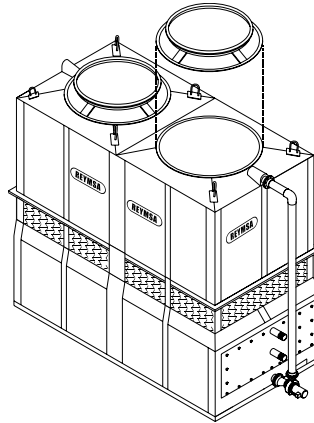

Figure A-38: Fan adaptor 2 installation
B. For the Double Fan and Quadruple Fan, follow the same instructions described in previous step to install remaining Fan Adaptors (see Figure A-38 for an example). Each fan adaptor is labeled with a number on the inside of the upper edge; for a correct installation, this number must match the number on the corresponding receiving flange.